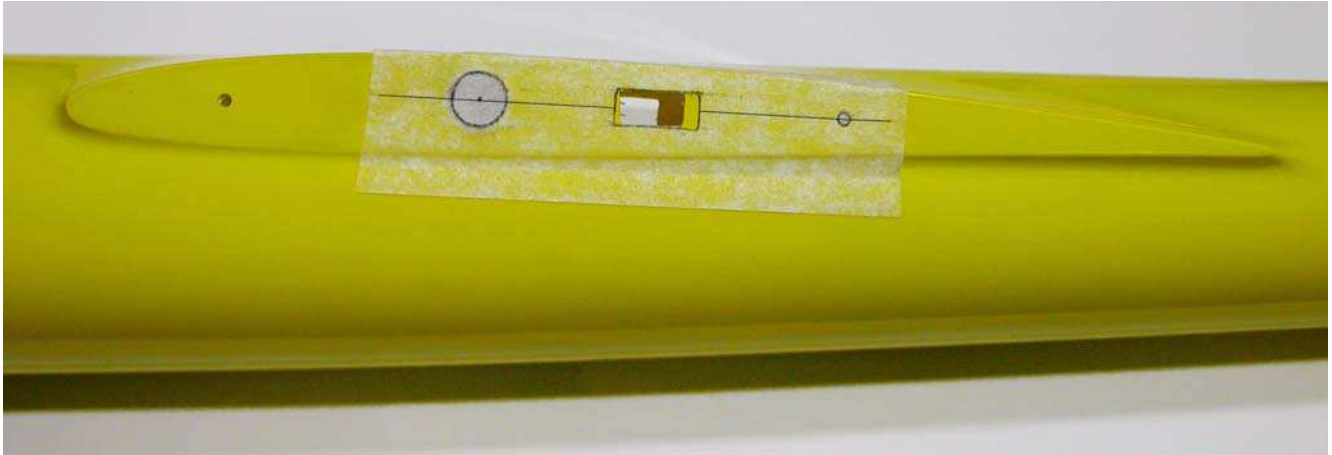

Fig.55: Position of the tape.
- carefully remove one of the two strips of tape and apply it on the fuselage wing root making coincide the hole for the wing rod and the hole for the alignment pin with the drawings on the tape (see figure 55);